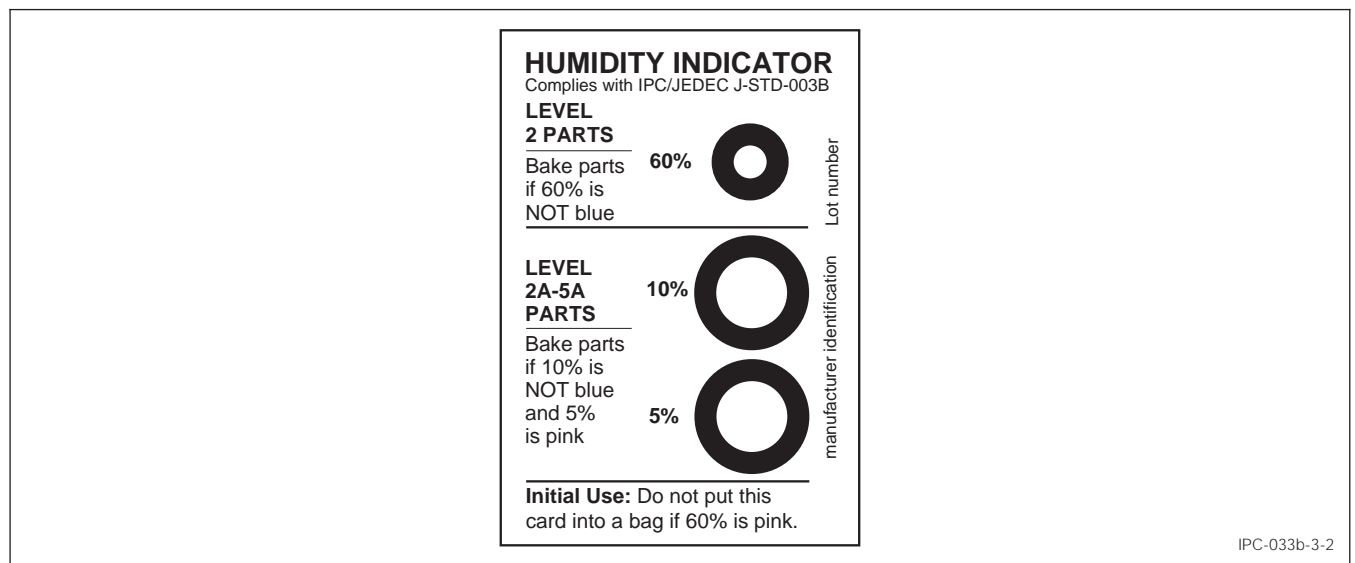

Figure 3-2 Example Humidity Indicator Card
**3.3.2.3 Humidity Indicator Card (HIC)** At minimum, the HIC **shall** have three (3) color spots with sensitivity values of 5%, 10% RH and 60% RH. An example HIC is shown in Figure 3-2. The spots **shall** indicate the humidity with a significant, perceptible change in color (hue) as indicated in Table 3-2, when tested using the test method in Appendix A. The colors **shall** be described in writing on the card.